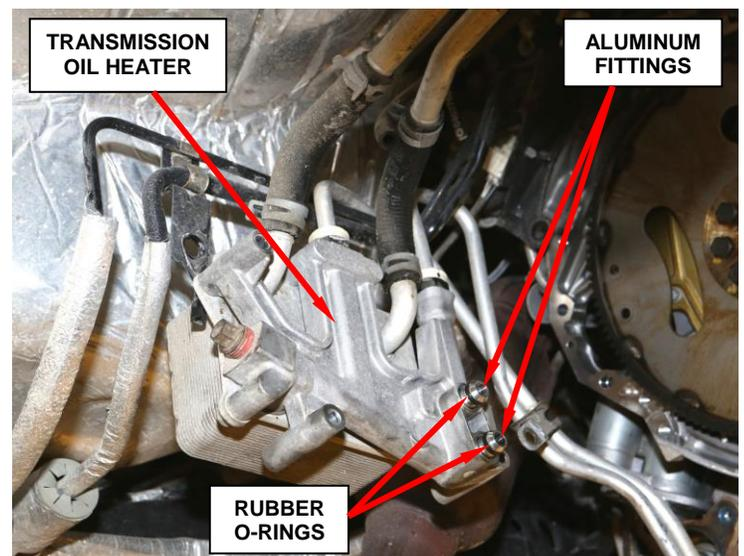

Figure 8 – Transmission Oil Heater O-Rings
26. Replace the transmission oil heater O-rings (Figure 8).